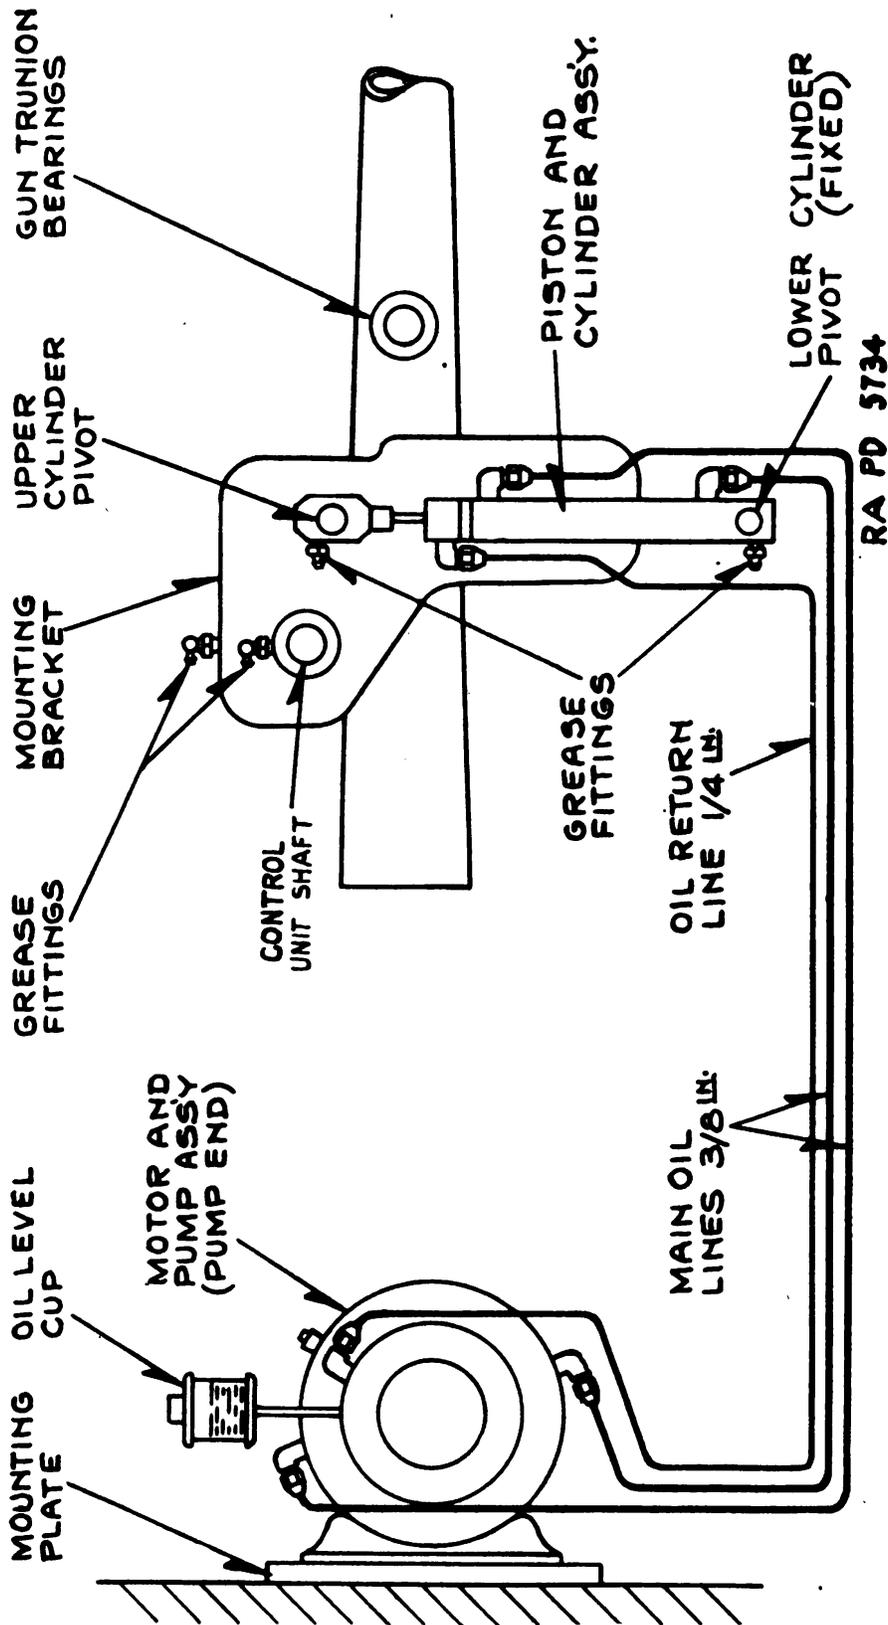

Figure 80.—Lubrication system.
(2) Check for free movement in the mounting of the piston and cylinder assembly.
(3) Tighten the packing gland on the oil pump shaft by removing the cover plate and turning the packing gland nut in a clockwise direction with a screw driver. Do not get it too tight.
(4) Lubricate the four alemite fittings shown in figure 80.
(5) Check all external electrical connections to see that they are tight.
(6) Check all oil line connections.
(7) Check for presence of air in the oil system.
(11) Reconnect all wiring by colors to the same connections from which the damaged ones were removed.
e. Replacing grease fittings.—(1) The grease fittings are of the alemite type and are located as follows (fig. 80) :
- (2) These fittings may be replaced by unscrewing and replacing with new ones.